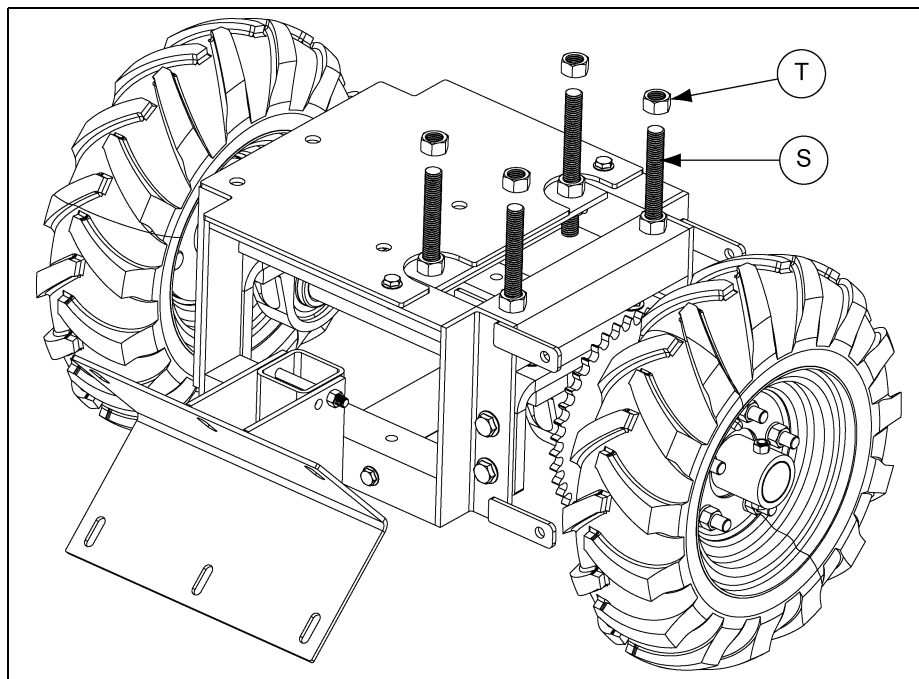

Figure 4U
12. Place one 5/8"-11 hex nut (T) onto each rod in a temporary position. These will hold the motor plate in place. (See Figure 4U.)